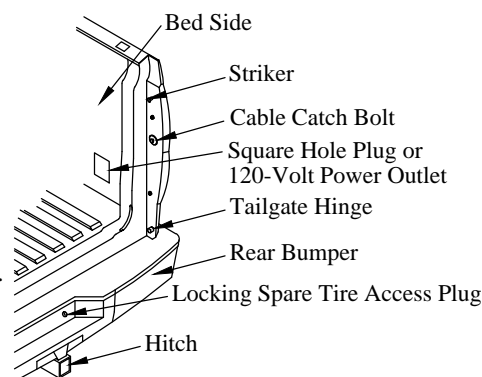

Figure 5: Remove hardware.
1. **Remove** the locking spare tire access plug using the truck's ignition key (Figure 5).
3. **Remove** the tailgate and tailgate hardware (Figure 5).